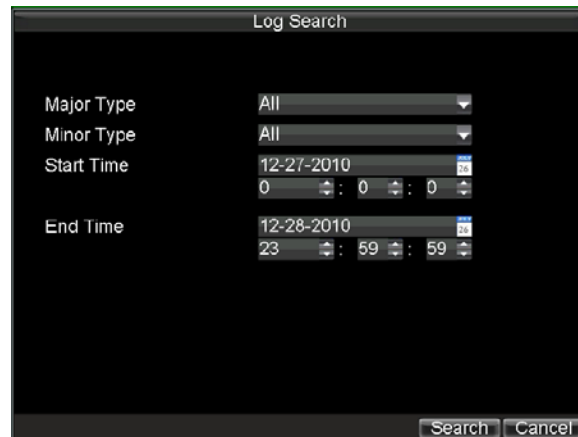

Figure 15. Log Search Menu
1. Click *Menu > Maintenance > Log Search* to enter the Log Search menu, shown in Figure 15.